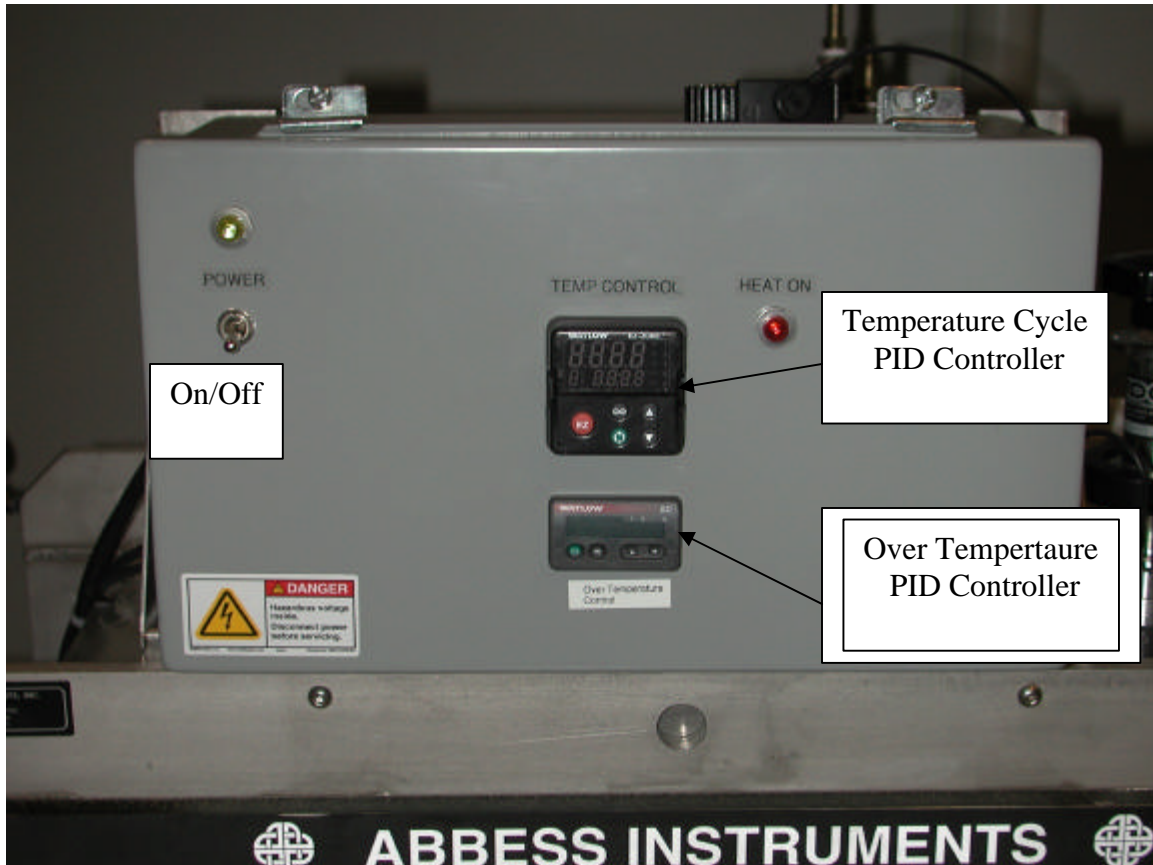

Figure 6. Vacuum Chamber Temperature Controller
1. Shut off Main power to Vacuum Chamber Temperature Controller. See Figure 6.